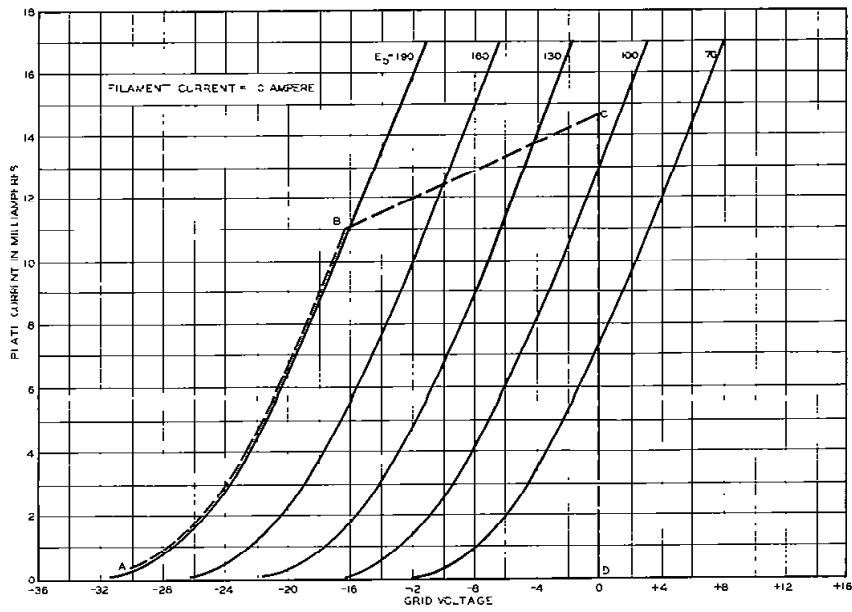

FIG. 3
**Characteristics**—Figure 3 shows typical curves of plate current as a function of grid voltage for several values of plate voltage. The grid and plate voltages are measured from the negative end of the filament. Figures 4, 5 and 6 show corresponding amplification factor, plate resistance and transconductance characteristics respectively. Figure 7 shows plate current as a function of plate voltage for several values of grid voltage.
**Operating Conditions and Output**—Figure 3 shows the range of permissible operating plate and grid voltages included within the area ABCD. A number of recommended and maximum operating conditions and the corresponding values of amplification factor, plate resistance, transconductance and performance data are given in the table.
**Characteristics**—Typical curves showing plate current as a function of grid voltage for several values of plate voltage are shown in Figure 3. The grid and plate voltages are measured from the negative end of the filament. Corresponding amplification factor, plate resistance and transconductance characteristics are given in Figures 4, 5 and 6 respectively. Plate current as a function of plate voltage for several values of grid voltage is shown in Figure 7.